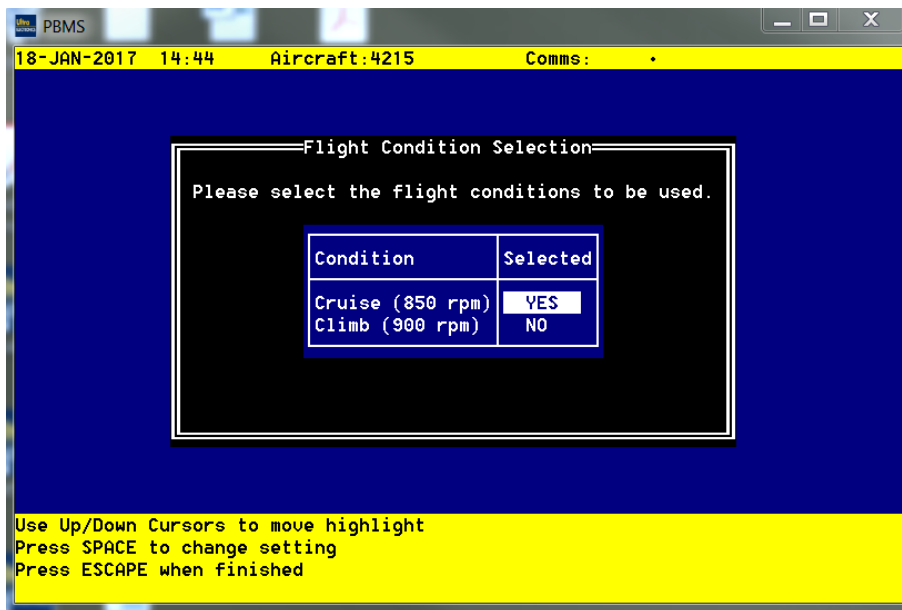

Figure 2-15 Flight Condition Set-Up Screen
- (4) Flight Condition Set-up
- (a) Select 'Flight Condition Set-up' from the 'Set-up Menu' and press <ENTER>. This will bring up the 'Flight Condition Selection' screen (Refer to Figure 2-15).